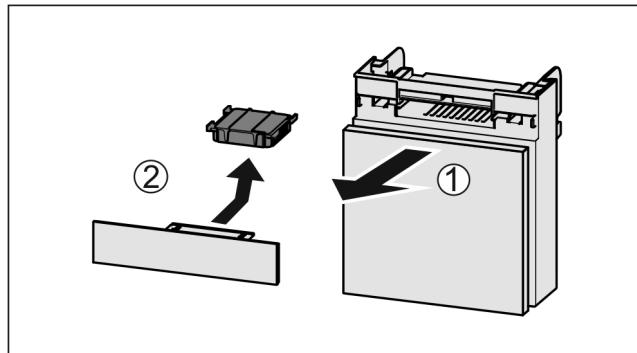

Fig. 141
► Pull out the compartment Fig. 141 (1).
► Remove the carbon filter Fig. 141 (2).